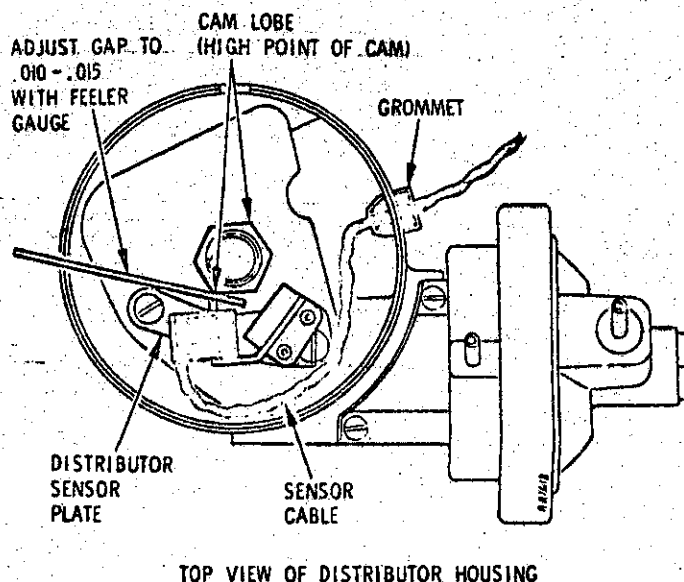

FIGURE 2
7. Route sensor cable (grey) as indicated in Figure 2, and slip cable through hole in side of distributor housing. Then install split grommet around sensor cable and into hole, being sure to allow enough slack in cable to account for vacuum movement of breaker plate.